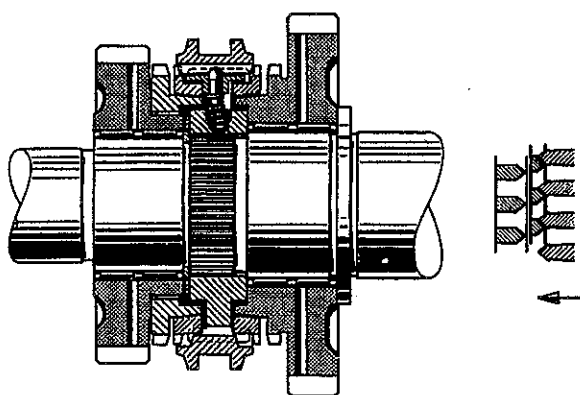
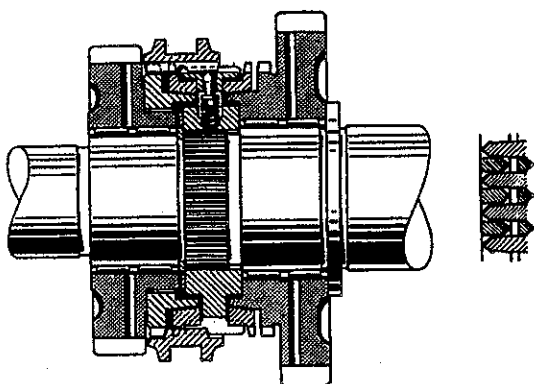

Fig. 3
Fig. 4
### 2. Shifting operation (Fig. 3 and 4).
The shifting sleeve (H) is axially pushed forward in one direction (in the example shown to the left). The sliding sleeve will take the ball pins (K) and thrust pieces (D) along, since the ball pins are pushed by the preloaded synchronizer springs (C) and their upper ends into the V-shaped annular groove of the sliding sleeve. Thrust pieces (D) are in connection with the lefthand and righthand blocking ring (synchronizer ring) (F). When the sliding sleeve is moving to the left, the lefthand blocking ring is also moved to the left by the thrust pieces. After approx. 0.5 mm the blocking ring and its conical surface are abutting against the surface of clutch body (J), which is also of conical design. This will rotate the blocking ring by approx. 2 mm in relation to the sliding sleeve and the synchronizer (A) until the blocking ring and its lugs are resting in the slots of the synchronizer. The position of the blocking ring in relation to the sliding sleeve is therefore such that the teeth on the OD of the ring are offset in relation to the tooth gaps of the sliding sleeve (Fig. 3). When the sleeve is moving on, its teeth will rest against those of the blocking ring and submit an axial force against the ring. The flat abutting angle on the sliding surface of the clutch body (J) and the blocking ring will establish forces in radial direction which are stronger than the forces transmitted to the sliding sleeve in axial direction. This will reduce the difference in speed between the gear wheel to be coupled and the main shaft (as well as the sliding sleeve). Only when the two speeds are synchronized, the blocking ring and the gear wheel are turned back slightly (approx. 1 to 2 mm) until the teeth of the sliding sleeve are in line with the tooth gaps of the blocking ring. At this moment the resistance will be overcome which has prevented any additional movements of the sliding sleeve during the shifting operation and the sleeve is now pushed into the coupling teeth of the pertinent gear wheel (Fig. 4). This is the end of the shifting cycle.